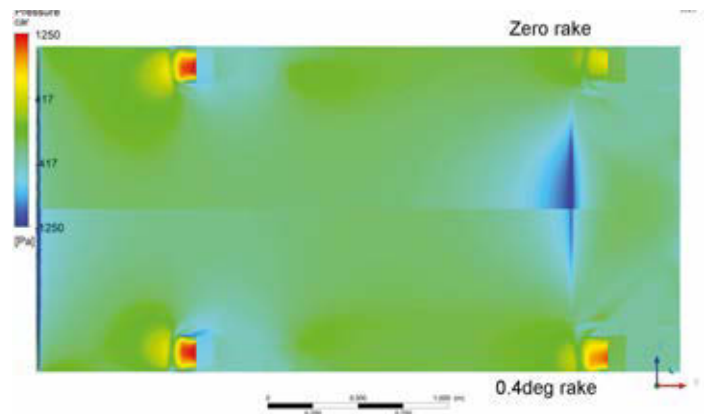

Figure 14: Underbody pressure distribution was significantly modified by chassis rake
**Figure 14** shows the marked change in the pressure distribution on the car's underbody between